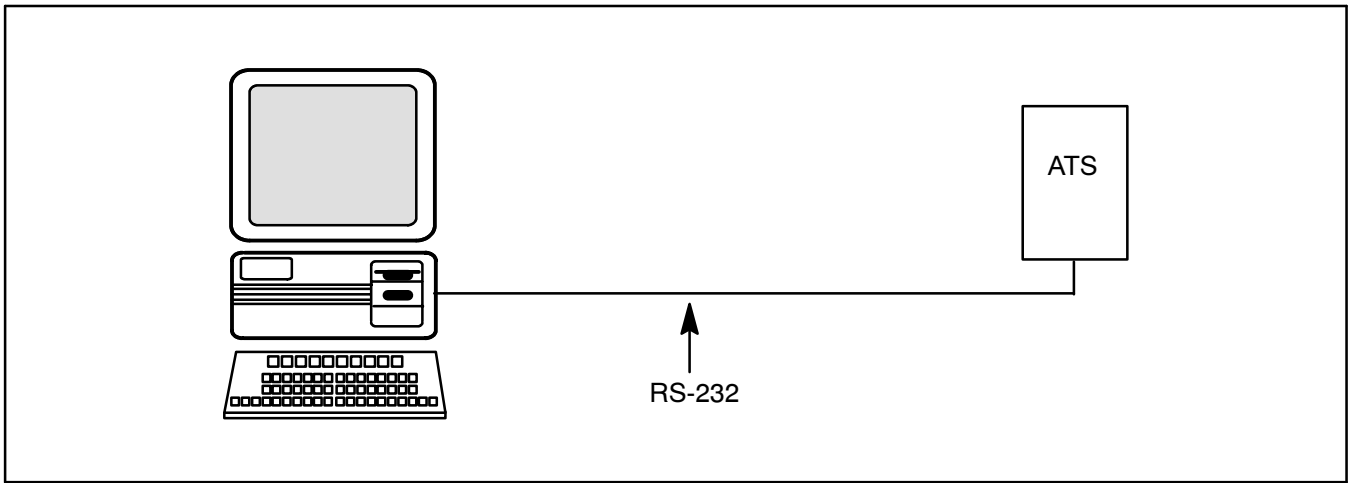
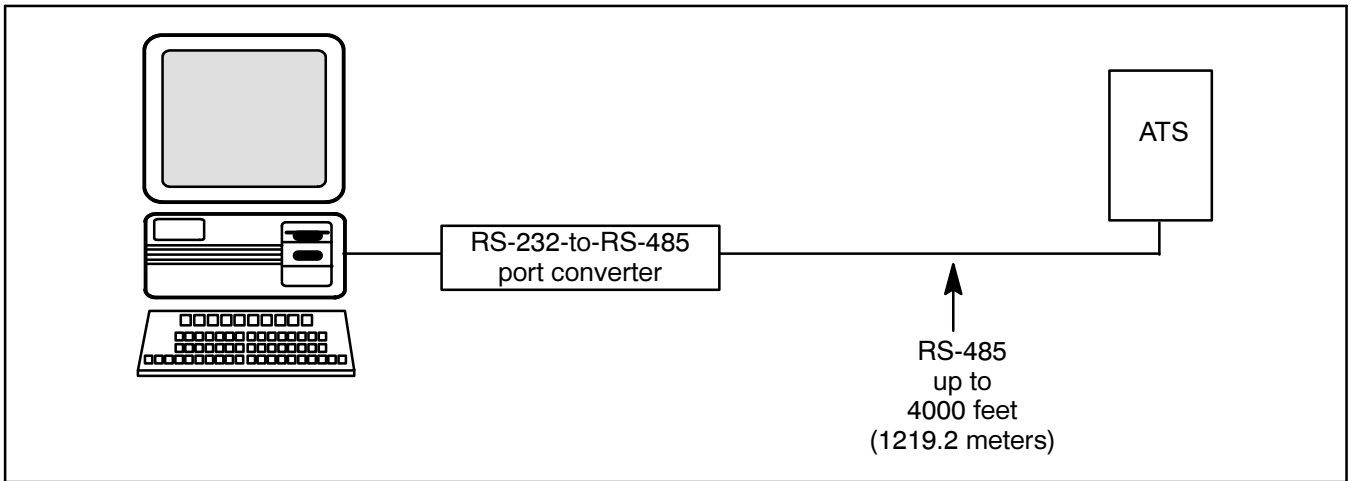

Figure 6-2. Local Single Connection, up to 50 feet (15.24 meters)
Figure 6-3. Local Single Connection, up to 4000 feet (15.24 to 1219.2 meters)
1. **Local Single Connection:** A personal computer is connected directly to the transfer switch's COM port with an RS-232 cable for application when the computer is within 50 feet of the transfer switch, or with an RS-485 cable for application where the computer is up to 4000 feet away from the transfer switch. See Figure 6-2 and Figure 6-3.